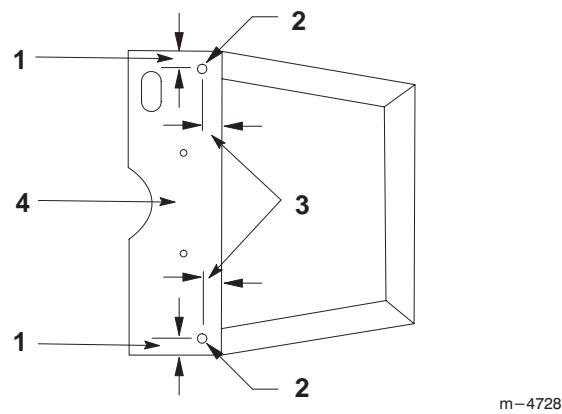

Figure 3
4. Mark and firmly center punch the two hole locations as shown in figure 3.
5. Drill 3/16" pilot holes and then drill 13/32" holes into engine deck (Fig. 3).